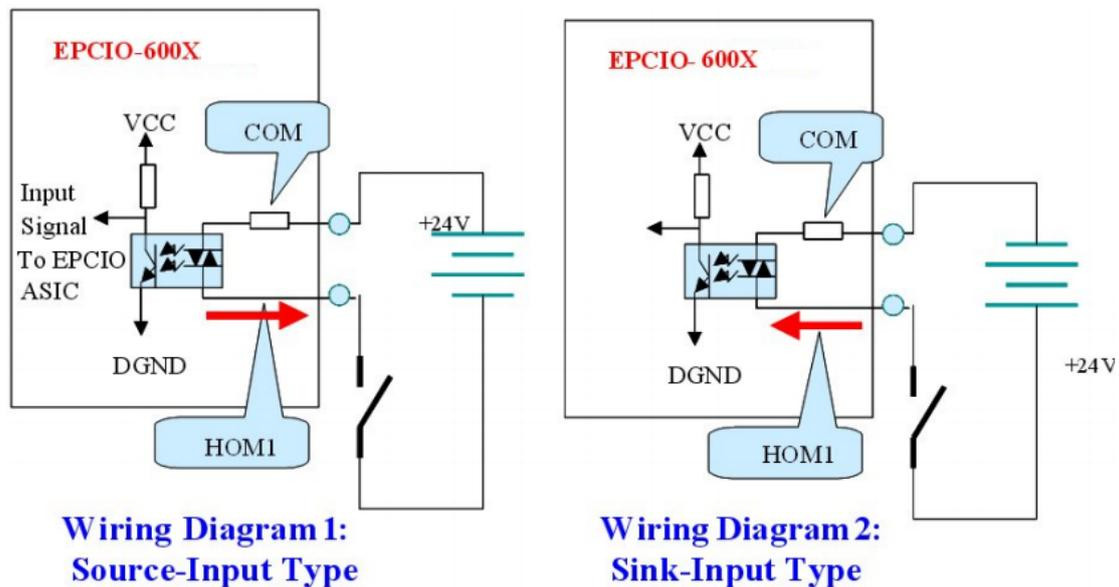
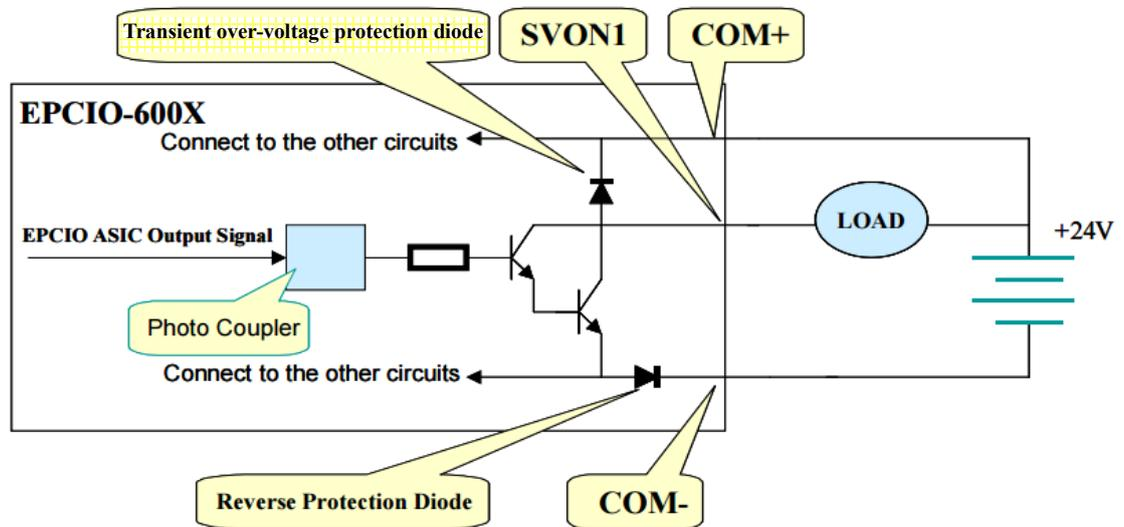

Figure 3-5.1
Figure 3.5-2
**3.5.1 Hardware wiring (refer to Section 3.1 Basic Installation and the following description). Taking EPCIO-6000/6005 for example, the following diagrams show the LIO input connections (Figure 3-5.1) and LIO output connections (Figure 3-5.2) of EPCIO-6000/6005.**